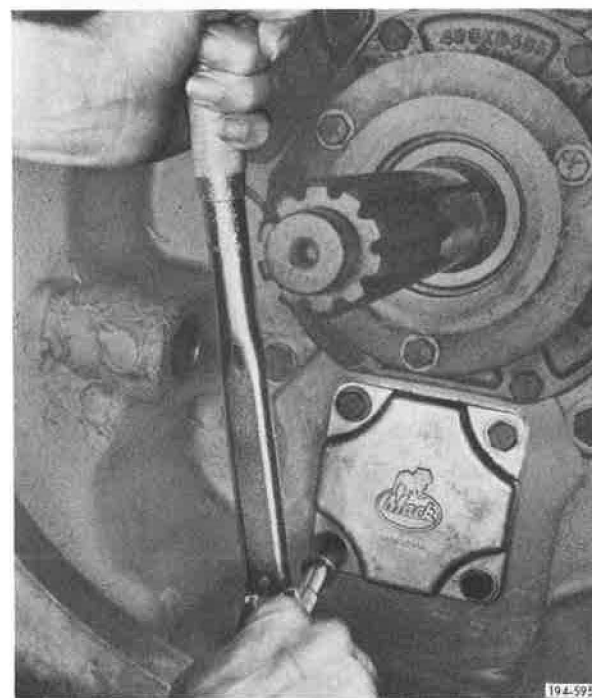

Figure 5-509. Torquing Capscrews
12. Install capscrews into cover, and tighten to correct torque. See Figure 5-509. Refer to Torque and Tolerance Table, Item 5.